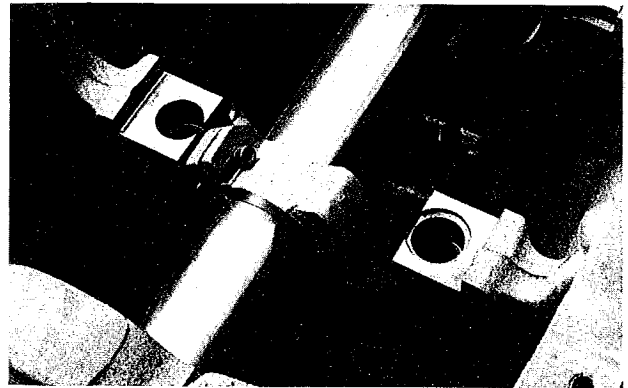

FIG. 1 BORING SADDLE 0.100" OVERSIZE
3. Bore saddle 0.100" oversized, taking 3 or 4 cuts (Bore size  $+0.100" \pm 0.005$ ). See Fig. 1.